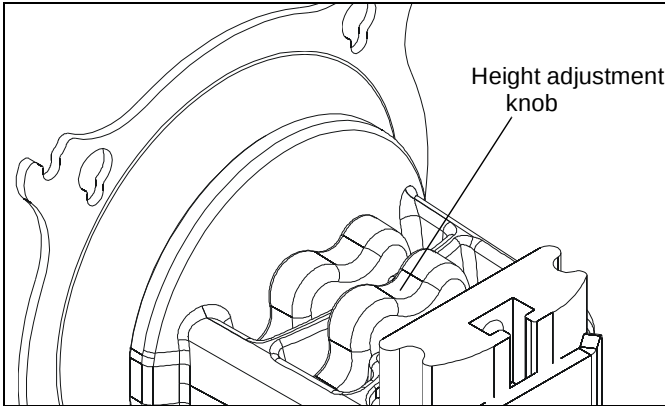

Figure 6
4. Adjust Centris bracket (B) to desired height and tighten the knob closest to the array (A1) to secure Centris bracket to array. (See Figure 6)